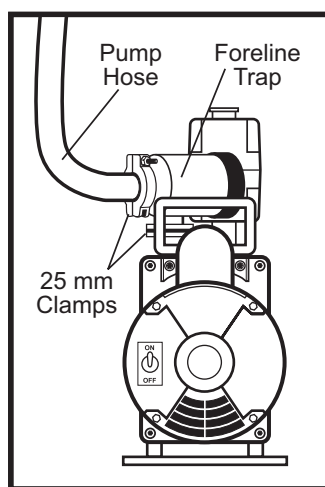
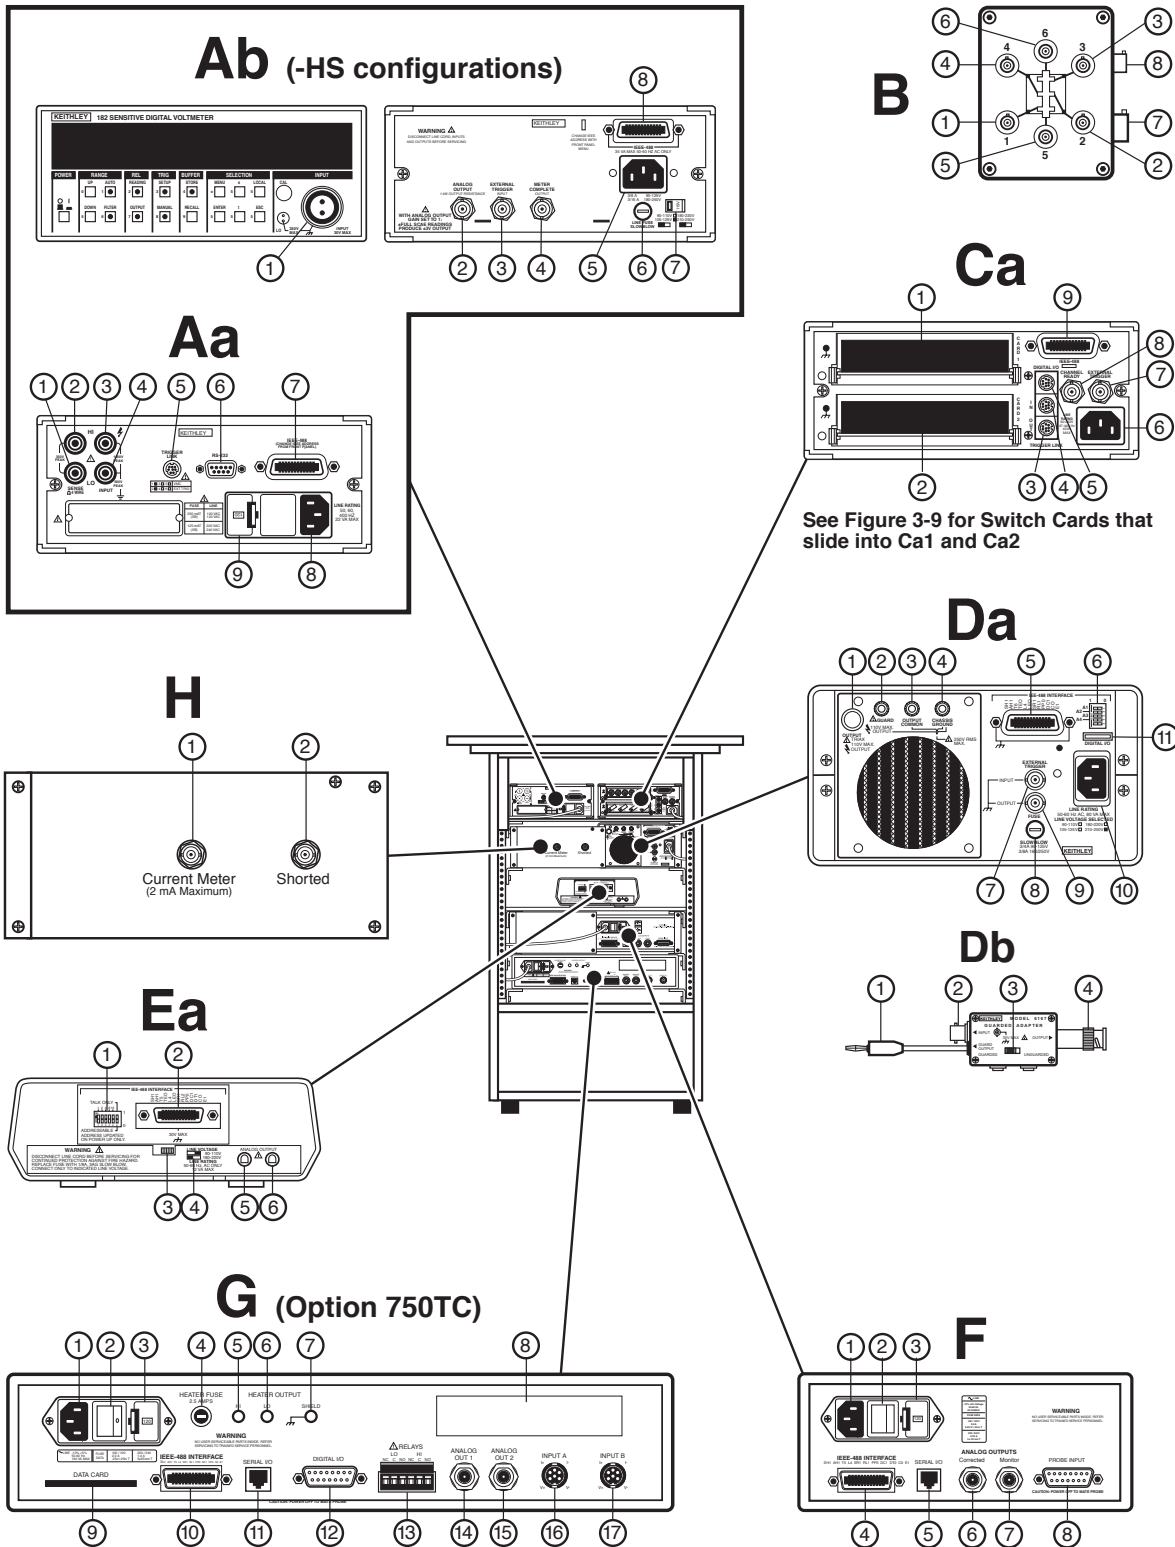
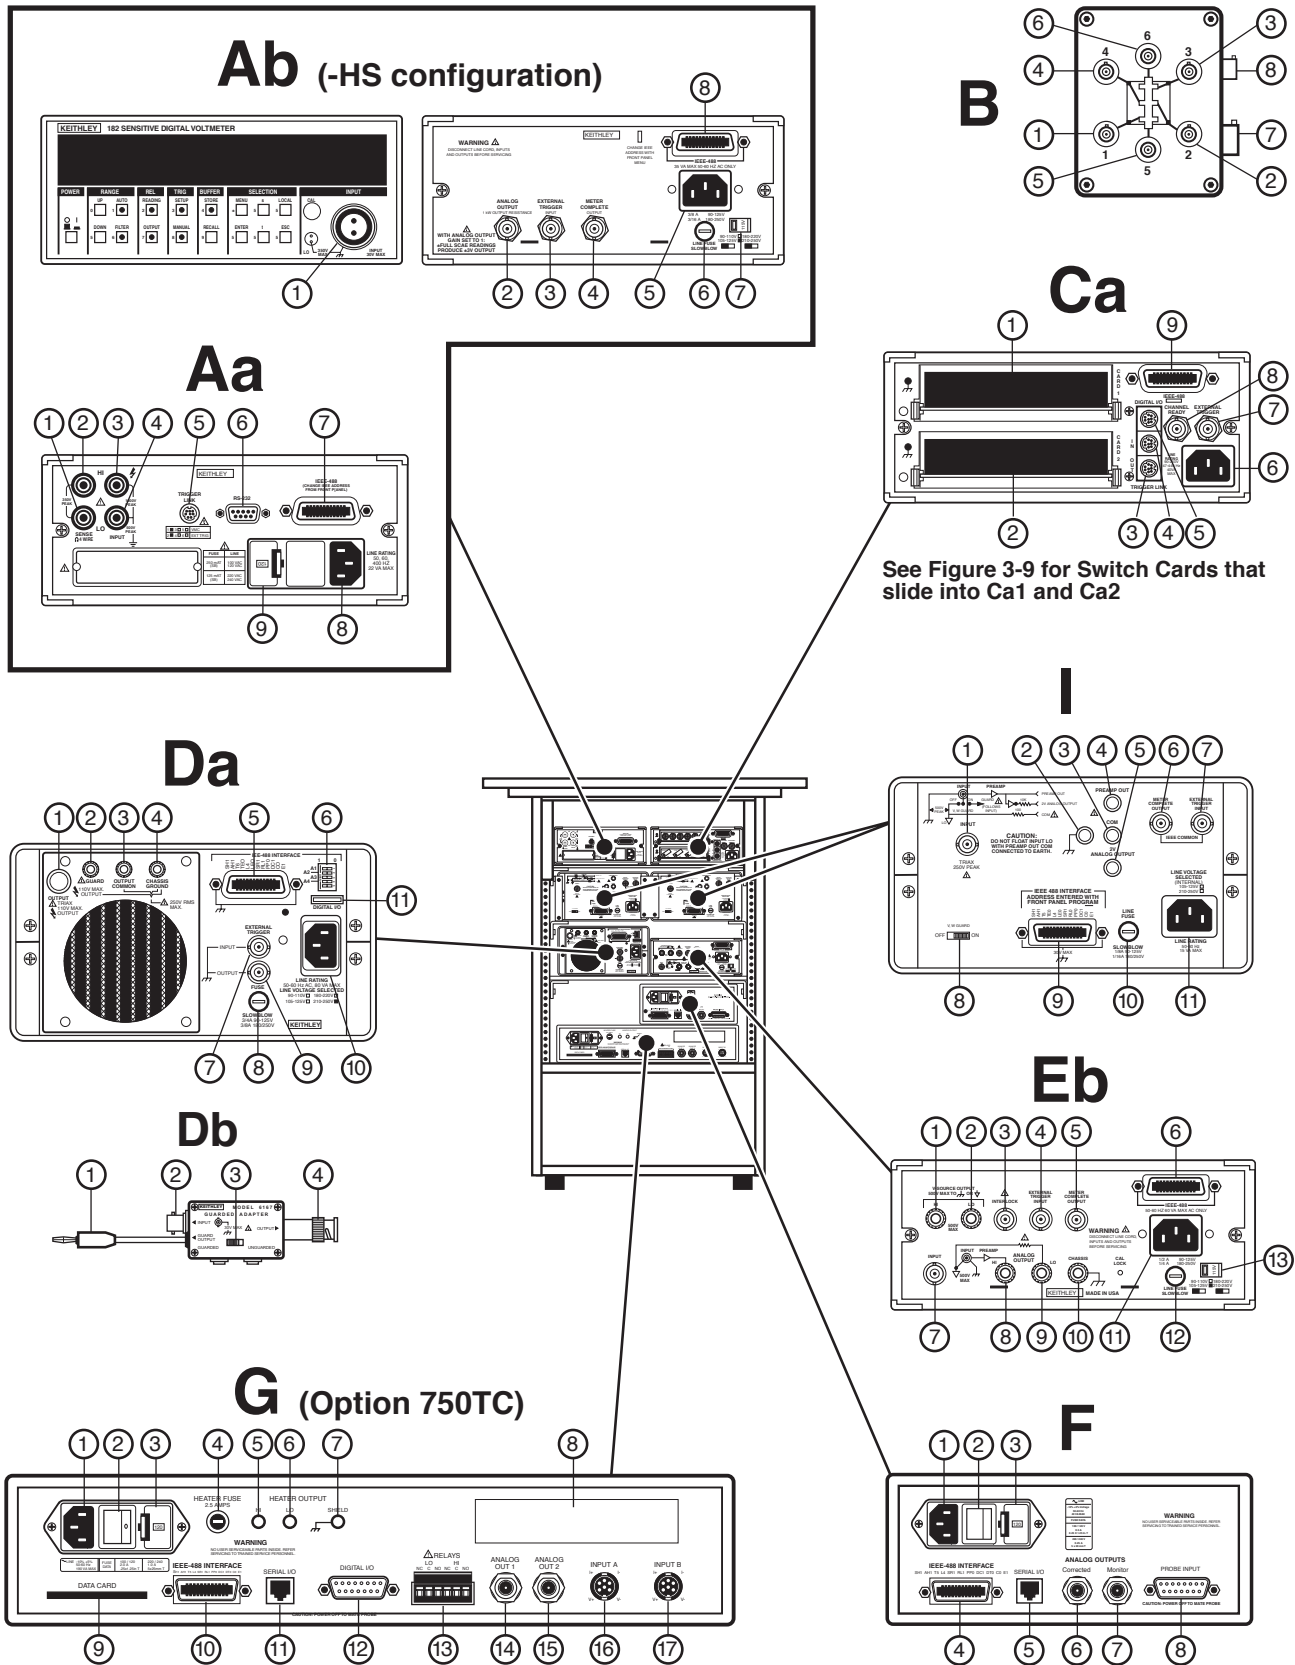

Figure 3-8. Vacuum Pump Connections
Figure 3-11 Instrumentation Console and connection points for all measurement configurations except -HVWR.
Figure 3-12 Instrumentation Console and connection points for -HVWR High Voltage, Wide Resistance range measurement configurations.
1. Locate the cable with a 4-Pin connector on one end and a DB-9 connector on the other end. Plug the DB-9 connector into the Model 241 DB-9 port (Figure 3-8). Plug the 4-Pin connector into the 4-Pin output on the superconducting magnet dewar (see Figure 3-11).
2. Plug the power adapter cable into an AC outlet. Plug the other end into the Model 241 12 VDC power port (Figure 3-8).
- Connect the Magnet Power Supply Terminal Cables to the cryostat MPS terminals (Figure 3-11). Red = positive, Black = negative.
12. Plug cable from Model 340 Analog Out 2 port into 4-pin Hall Insert Input (Figure 3-11).
13. Plug Model 340 tri-cable into 10-pin Hall Insert input (Figure 3-11).
14. Plug male end of the Solenoid Valve Assembly Transformer Cord into the Solenoid Valve assembly (Figure 3-11). Plug other end into Transformer. Plug the Transformer 3-contact plug into a power strip.
Figure 3-11 and **Figure 3-12** and **Table 3-1** identify connection points on all instruments in the instrument console. Refer to these when making connections during installation.
Table 3-1 Hall Measurement System Instrumentation Connection Point Designations. The locations of the connections listed below are shown in **Figure 3-11** and **Figure 3-12**. Items in **bold face** are used to make a connection in at least one Series 7500 instrumentation configuration.